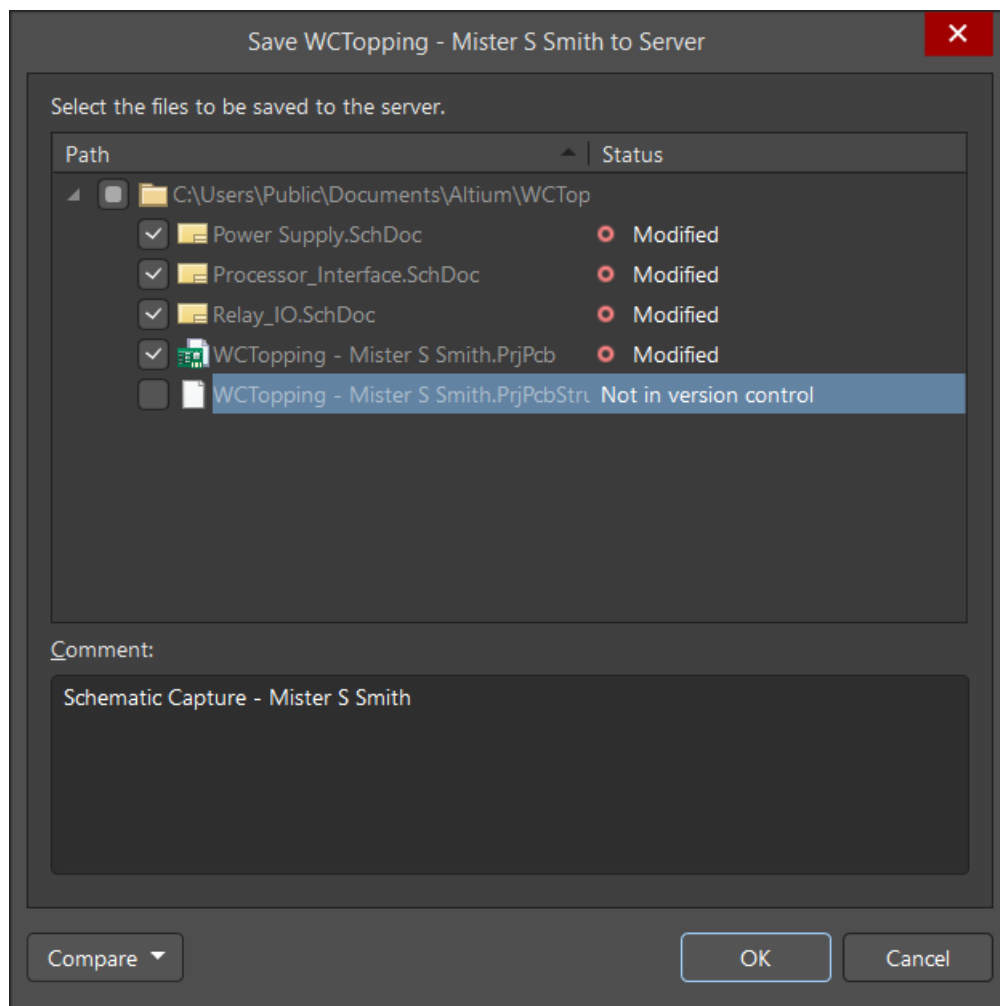

Figure 19. Save to Server
42. At the dialog *Save [Project Name]*, as seen at Figure 19